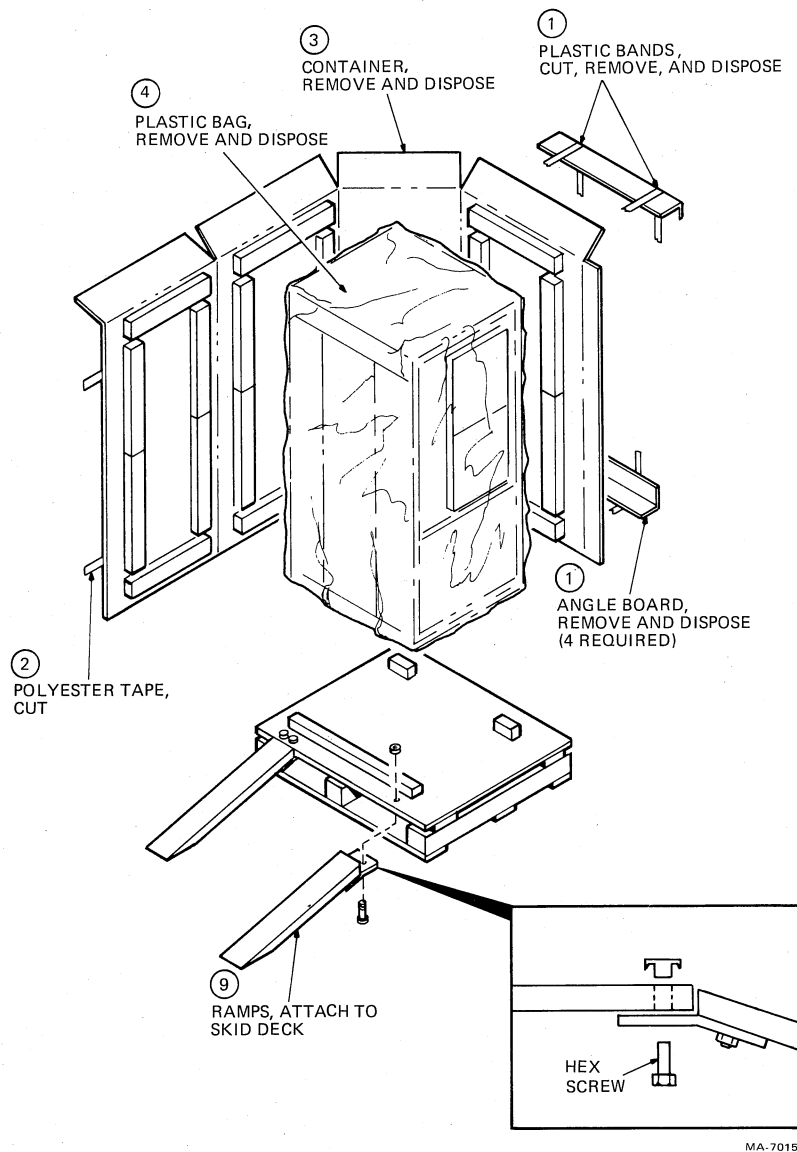

Figure 3-2 Unpacking the TU78
To unpack the TU78 from its shipping container, and remove the shipping skid, perform the following procedure. (Refer to Figure 3-2).
9. Attach the two wooden ramps to the skid deck. Four tee nuts have been driven into the top of the skid deck on the left side for this purpose. (Refer to the exploded view of Figure 3-2 showing mounting details.) Position the aluminum bracket of one mounting ramp underneath the skid deck so that the holes in the bracket are lined up with the tee nuts. Fasten the bracket to the skid deck with two 1/4-20 × 3/4 hex bolts. (The bolts are shipped in the accessory package) Attach the second ramp to the skid deck in the same manner.